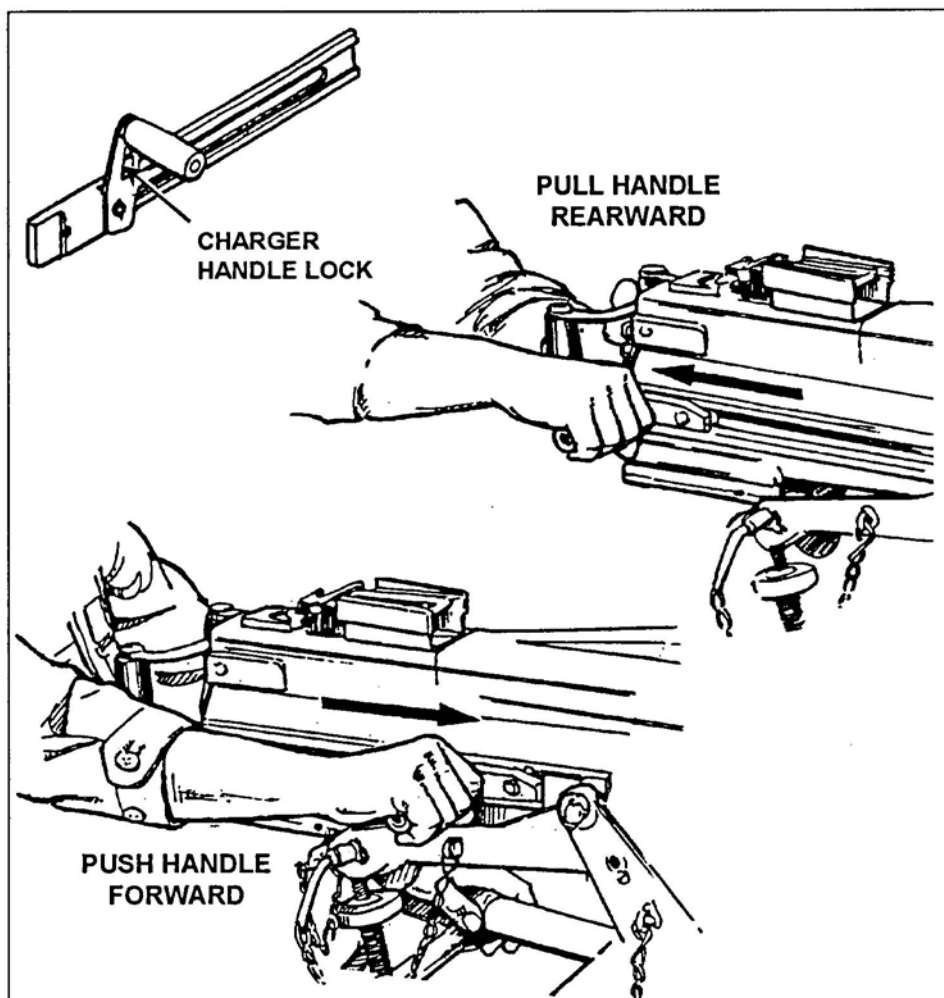

Figure 4. Charging the MK 19 machine gun.
- 4. Charge the weapon (Figure 4).